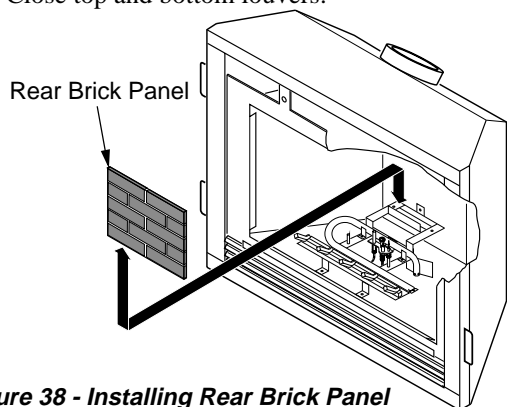

Figure 38 - Installing Rear Brick Panel
5. Install rear brick panel first. Rest bottom edge of panel on back edge of grate (see Figure 38).